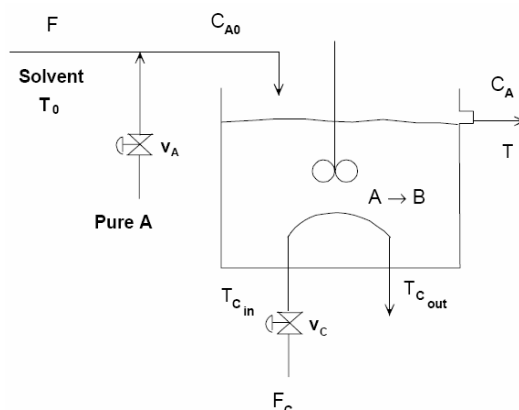

Figure Q2a. The non-isothermal CSTR
2. The non-isothermal CSTR shown in Figure Q2a is considered in this problem.